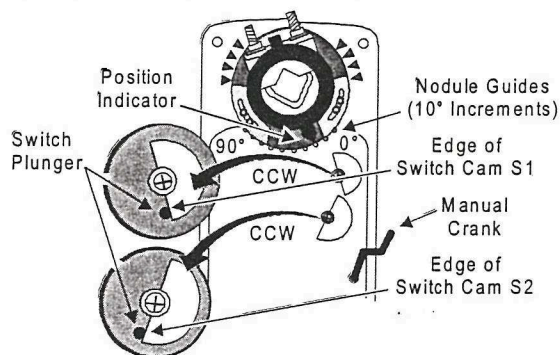

Figure 14: Switch Cam Angle Settings
1. Move Jumper W1 from the factory set DA position to the RA position. (See Figure 14.)
3. Rotate Switch Cam S1 CCW, aligning the edge of the switch cam with the switch plunger until the plunger rises. (See Figure 14.)
2. Rotate Switch Cam S2 CCW, aligning the edge of the switch cam with the switch plunger until the plunger rises. (See Figure 14.)